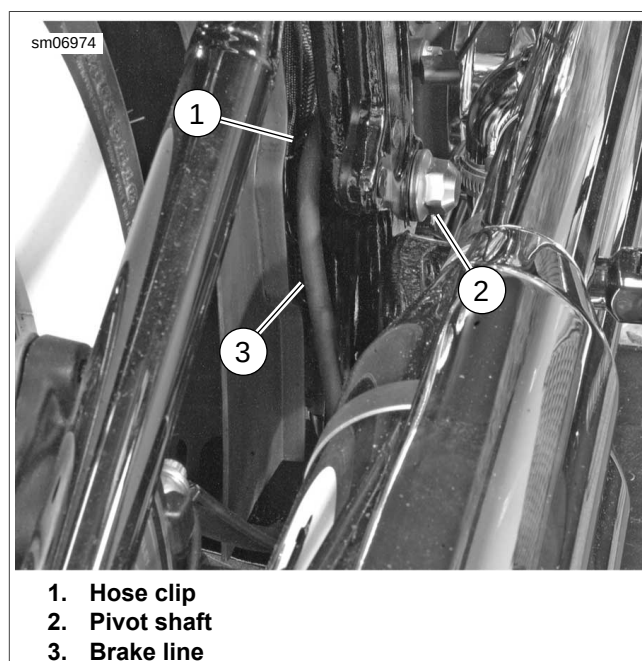

Figure 2-68. Rear Brake Line Routing
See Figure 2-68. When routing the rear brake line (3), make sure it is placed over the pivot shaft (2) and held in place by hose clip (1). 2010 model year and earlier brake lines are routed under the pivot shaft.